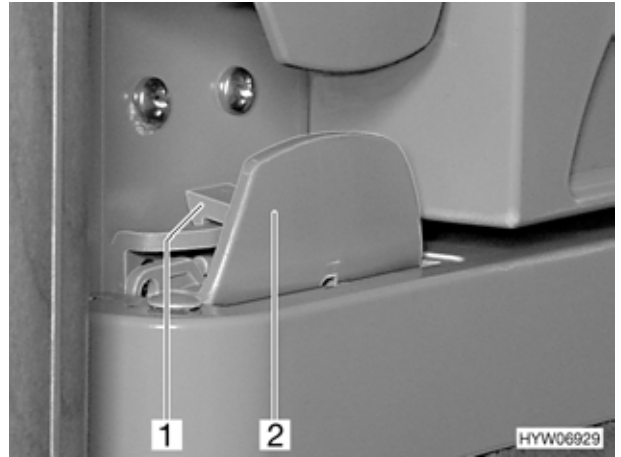

Fig. 139 Refrigerator door lock, closed (variant 3)
- Open the refrigerator door at the handle (Fig. 139,2). The lock (Fig. 139,1) is released automatically.